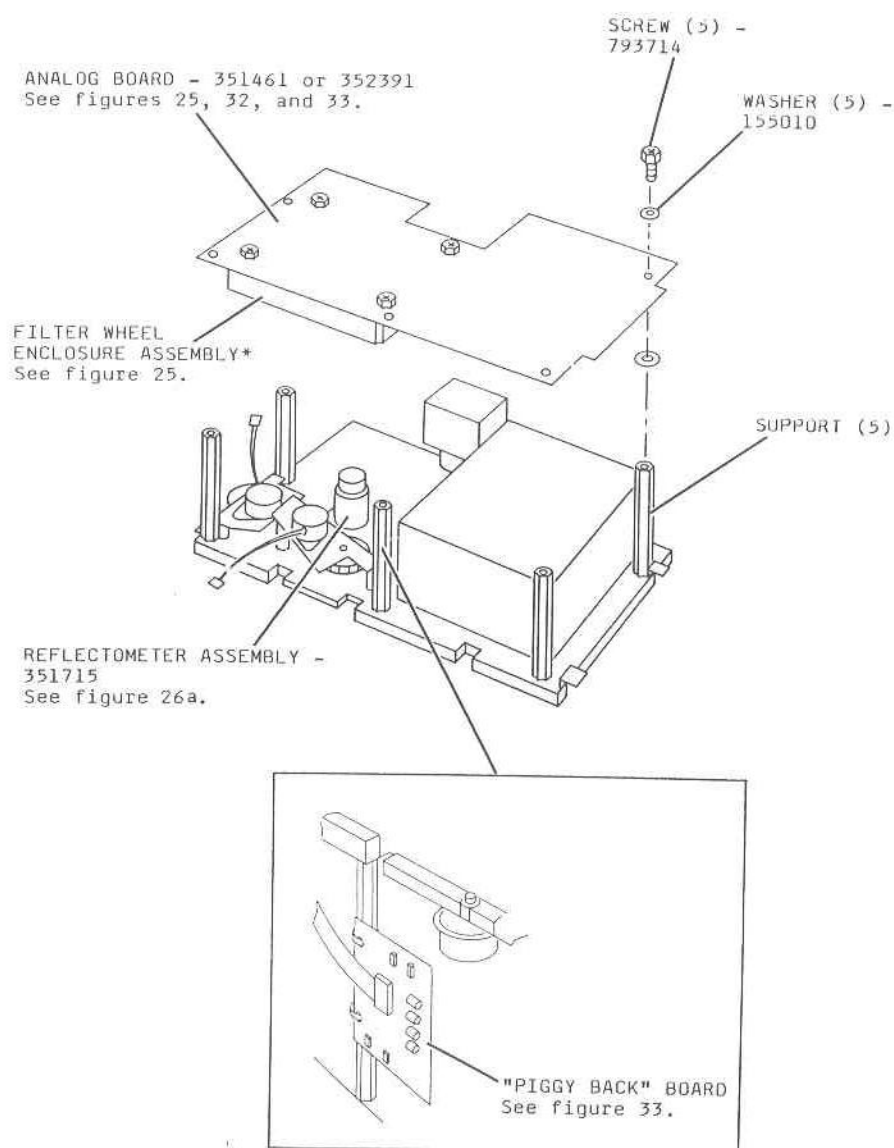

Figure 24
- [6] Remove the ANALOG BOARD. See figure 24.
- ANALOG BOARD, see figure 24